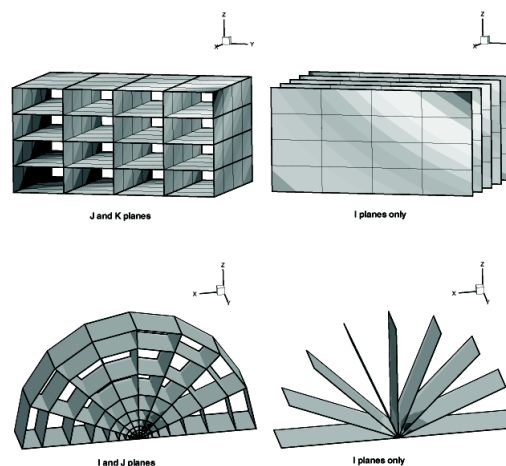

Figure 7-5. Examples of plotting I, J, and K-planes.
- **Planes Settings (I, J, K, IJ, JK, IK, and IJK-planes)** - Plots the appropriate combination of I, J, and/or K-planes. The planes are determined by the Range for each plane, which can be set using the [Range] buttons to the right of the [Surfaces to Plot button]. **These settings are available only for IJK-ordered data.** Figure 7-5 shows a number of examples of plotting I, J, and K-planes.